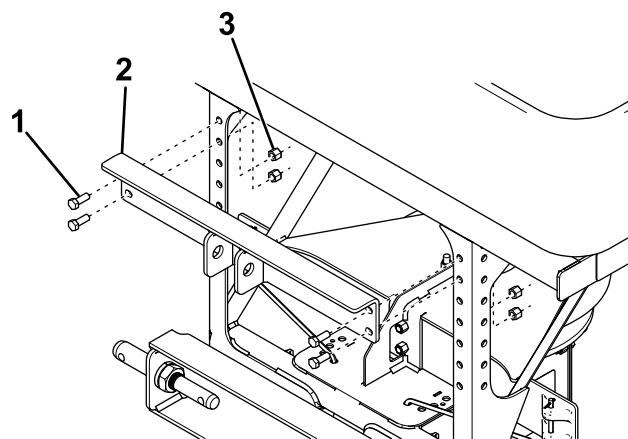

Figure 3
3. Loosely secure the upper weldment to the spreader frame using 4 bolts (3/8 inch) and nuts (Figure 3). Position the upper weldment using the holes that most closely align with your tractor mast height.